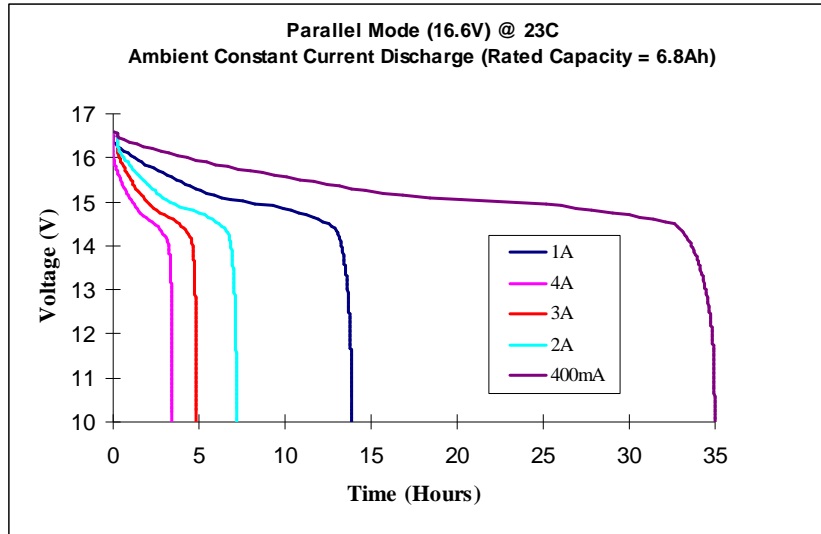

Figure 4
11.2. Parallel Mode Ambient Constant Current Discharges Voltage –v- Time (Figure 4)